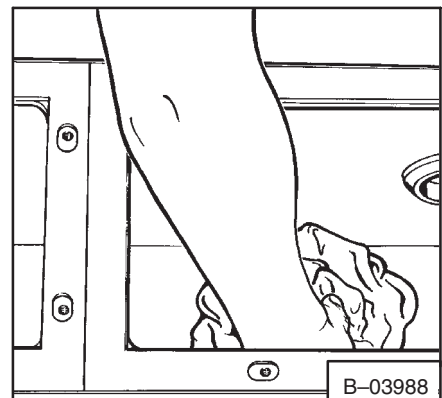

**Fig. 4-29** Removing Chaincase Fluid
3. Use a pump (Fig. 4-29) to remove all the fluid from the chaincase.